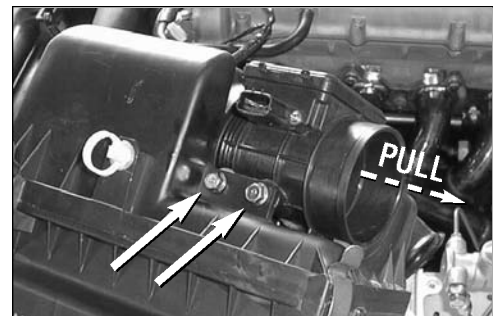

Figure 3
3. Remove the air meter from the filter box by removing the two bolts, then pulling the air meter out of the box. (See Figure 3) The rubber seal will be reused. Note that there is an arrow on the air meter showing airflow direction. Also remove the air temperature sensor from the filter box by pulling it out while "twisting". The rubber grommet will also be reused.